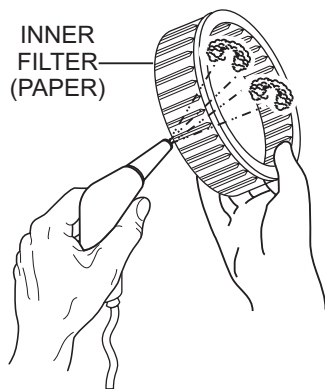

Figure 21. Cleaning Inner Paper Filter
1. To clean the paper air filter (Figure 21), tap the filter element several times on a hard surface to remove dirt, or blow compressed air not exceeding 30 psi (207 kPa, 2.1 kgf/cm²) through the filter element from the inside out.